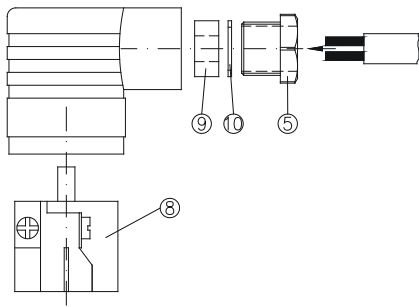

Fig. 8
- ☞ Insert the supply cable through the screwed cable gland ⑤, the pressure ring ⑩ and the rubber insert ⑨ into the cable socket ② (→ Fig. 8).